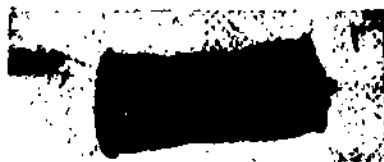

Fig 1-54. Rubber gloves.
- (2) **Rubber gloves.** Rubber gloves should be worn at all times when mixing acid or filling batteries (fig 1-54).